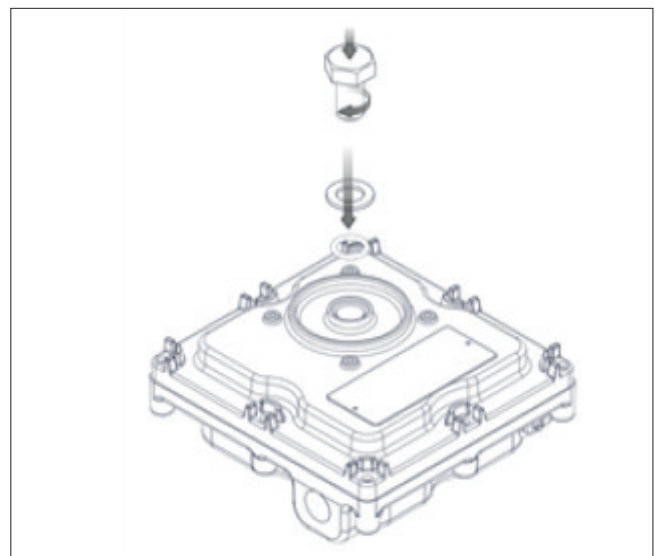

Figure 70. Assembling the Hexagonal Bolt, Washer & O-ring
5. And assemble the Hexagonal Bolt with washer & O-ring on the Cover as shown in Figure 70